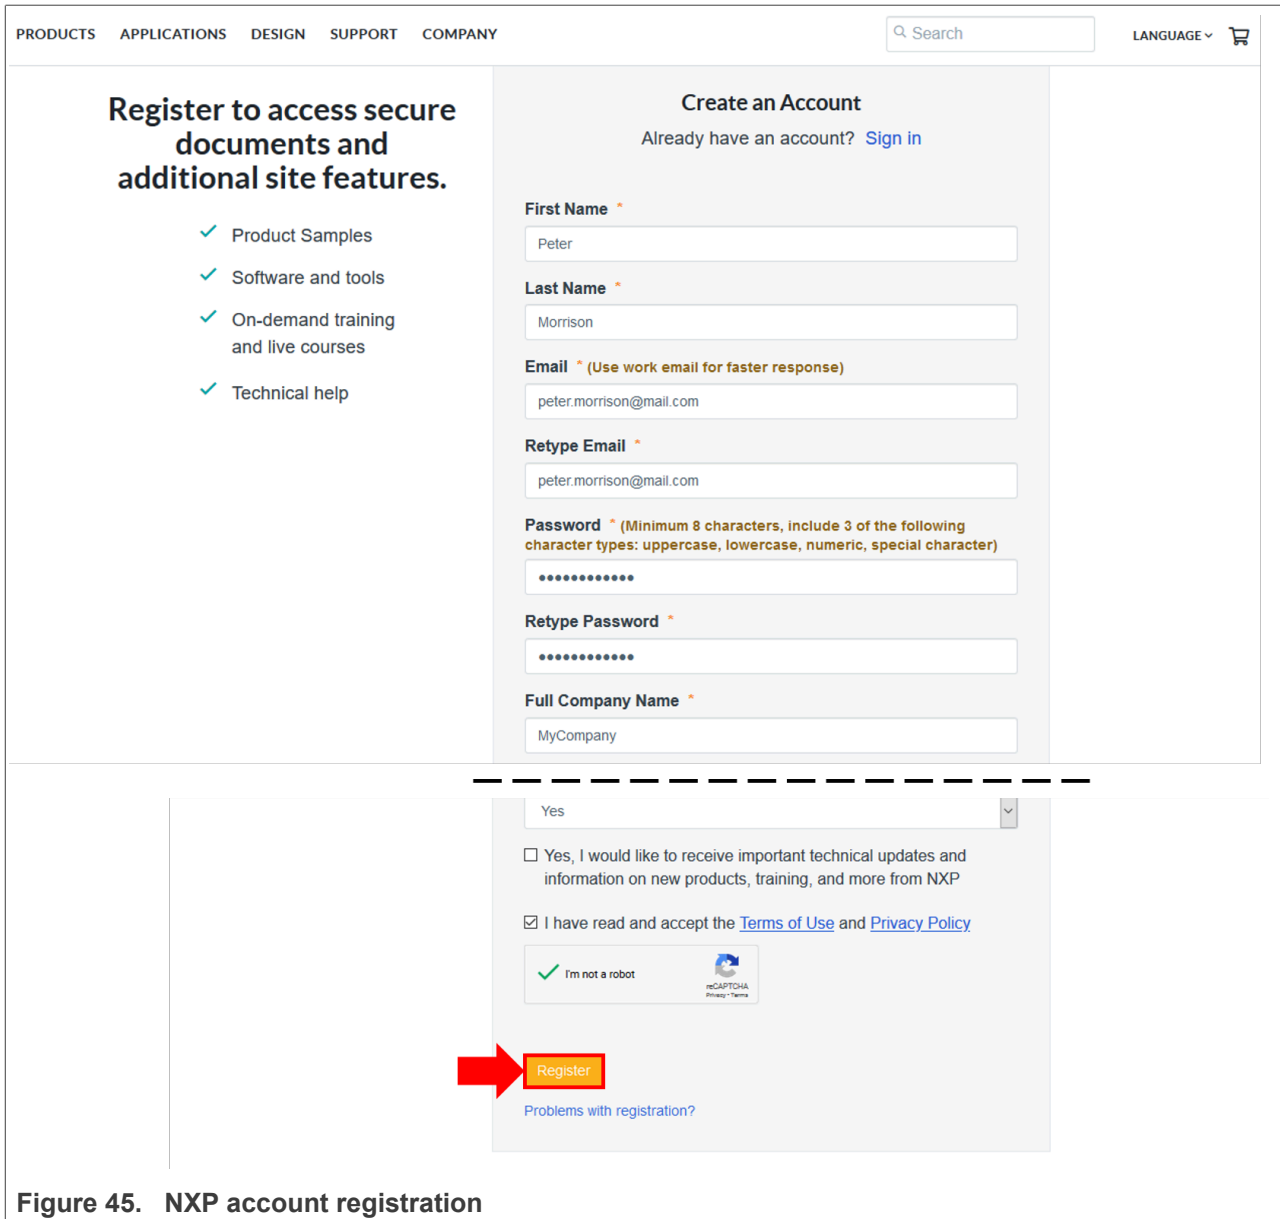

Figure 45. NXP account registration
1. If you want to register a new account, visit <https://www.nxp.com/webapp-signup/register>, fill in the fields with your data and then click on the Register button as shown in Figure 45. Once this is done, an activation link will be sent to the email address you provided. Follow the instructions in the email to activate your NXP account.